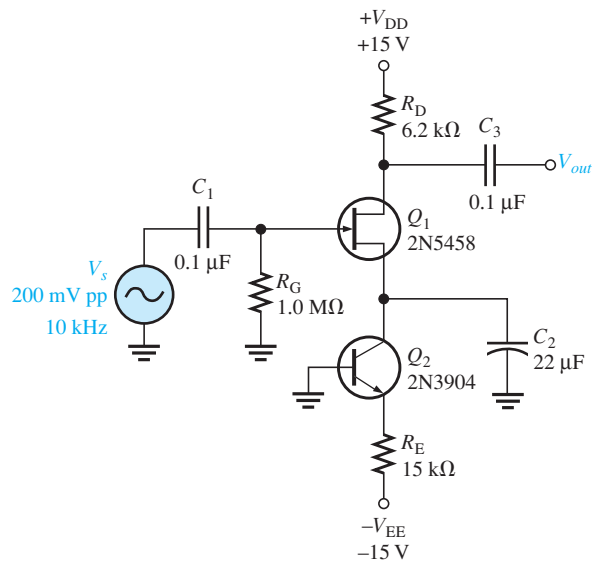

FIGURE 4-85
28. Assume the g_m of Q_1 is 1500 μ mhos for the amplifier in Figure 4-85.